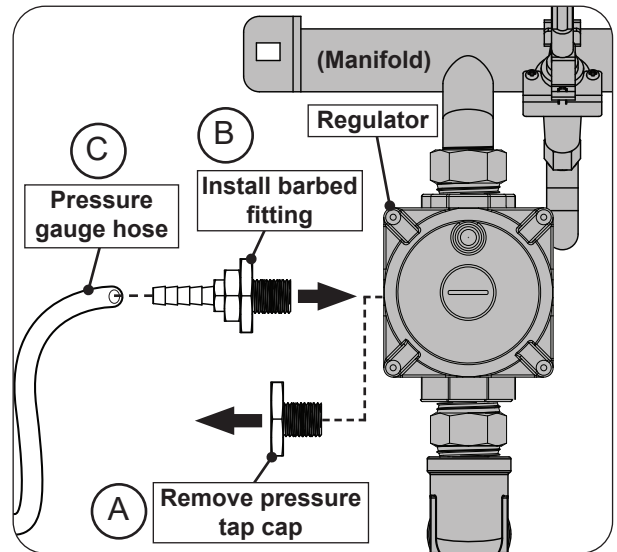

Fig. 22-1 Perform test point pressure test
2. Locate the regulator and remove the pressure tap cap using a $\frac{3}{16}$ " hex key (see Fig. 22-1, A).
3. Install the included barbed fitting into the pressure tap opening where the cap was removed (see Fig. 22-1, B).
4. Install a pressure gauge hose to the barbed fitting (pressure gauge and hose not included). See Fig. 22-1, C.